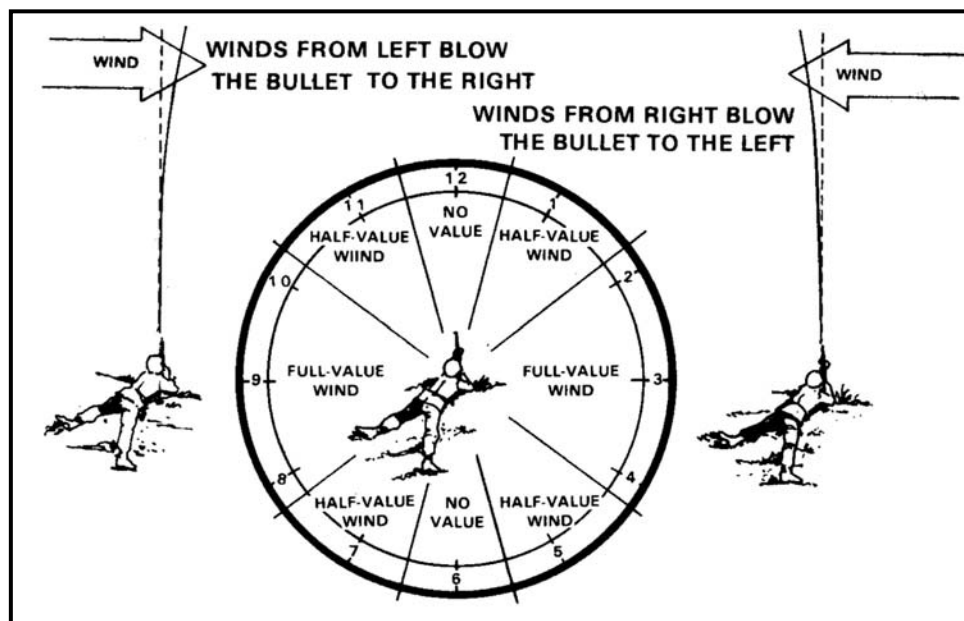

Figure 5-27. Determine wind value using the clock method.
(1) **Wind Direction.** The effects of wind vary depending on changes in wind speed and direction. Wind is classified by the direction it is blowing in relationship to the firer-target line. The clock system is used to indicate wind direction and value (Figure 5-27, page 5-28).